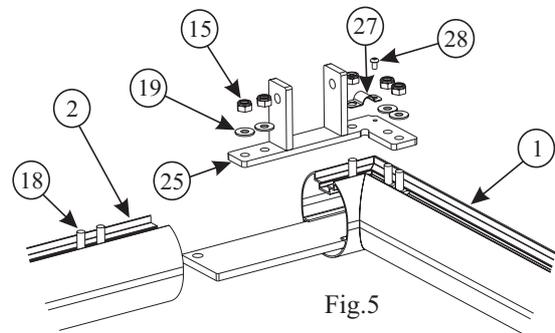

Fig.5
4 **Assemble the Goal Frame** - Lay the Crossbar (1) and Uprights (2) on the floor, insert 3 Square Headed Bolts (18) into each end of the Crossbar and 4 into each Upright. Slide the Upright onto the protruding plate from the Crossbar and fit the correct handed Top Bracket (25 or 26) into place and secure with Washers (19) and Nuts (15). As shown in Fig 5 place 3G Stadium Net Holder (27) into position, this clip will also act as a washer.